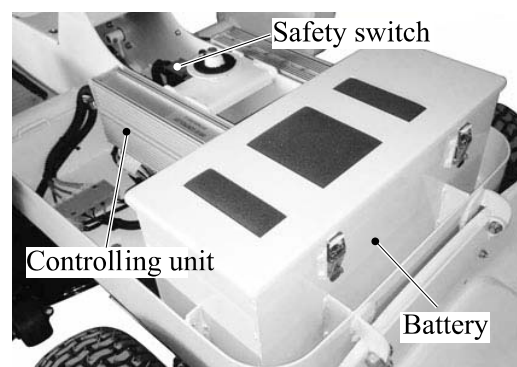

Fig 15.2
- When you are finished, carefully close the rear case and lock it back into place (**Fig 15.2**) .